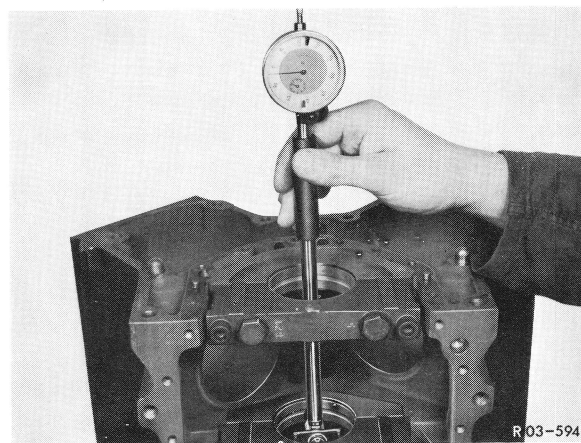

Fig. 2
- 3 Measure main bearing and connecting rod bearing bores at front and rear to check conicity (Fig. 2 and 3).